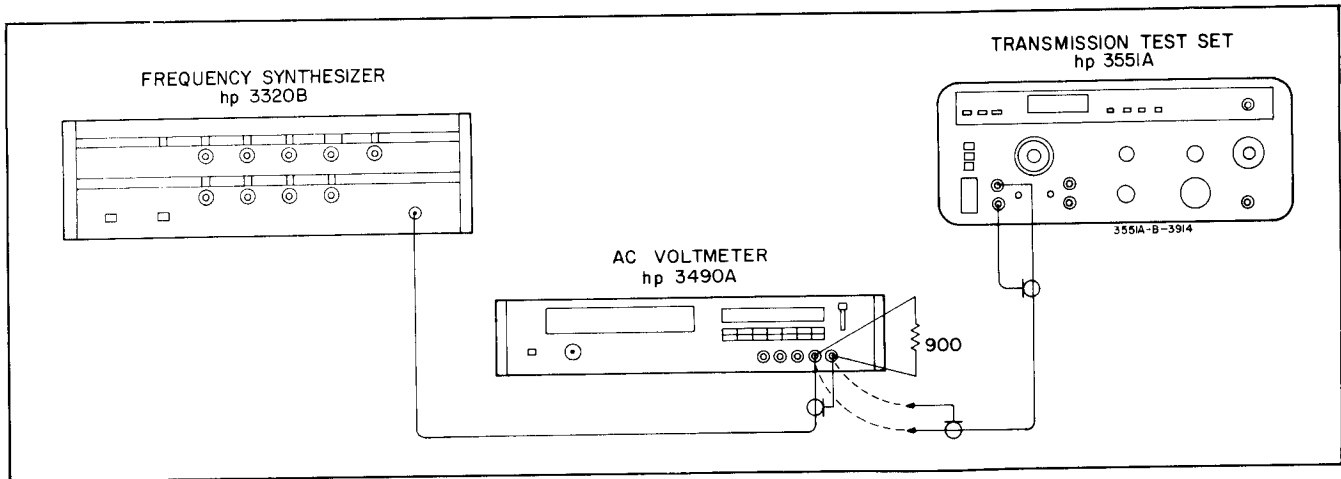

Figure 5-4. Bridging Loss Test Setup.
a. Connect the equipment as shown in Figure 5-4 with the Test Set disconnected.